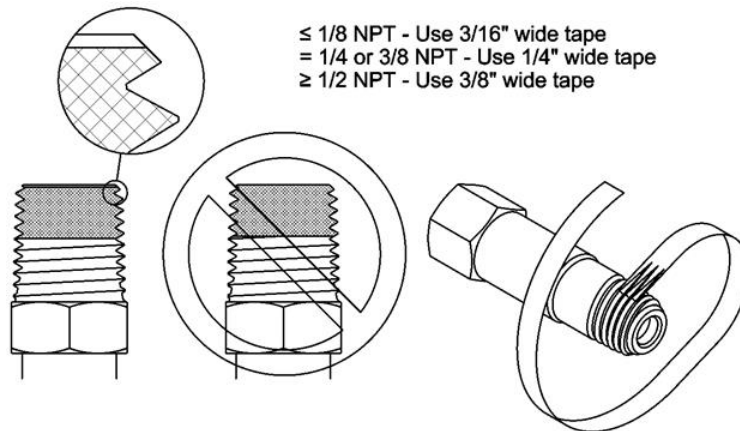

Figure 7 - Pictorial View of Tape Seal
Use an open-end wrench, not a pipe wrench, to install accessories to the AutoSwitch system. **ALWAYS hold the bulkhead fitting with a wrench when installing the accessories to the AutoSwitch system. Do not allow the bulkhead fitting to turn; otherwise, connections inside the box may be loosened.** NPT connections require the use of PTFE tape on the threads to make a gas tight seal (See Figure 7.). CONCOA uses PTFE tape on all of its NPT connections. Follow these rules when using PTFE tape.
- Start the PTFE tape on the first thread leaving a slight section of the chamfer exposed as shown in Fig. 7. Make sure the tape does not overlap the end of the fitting.